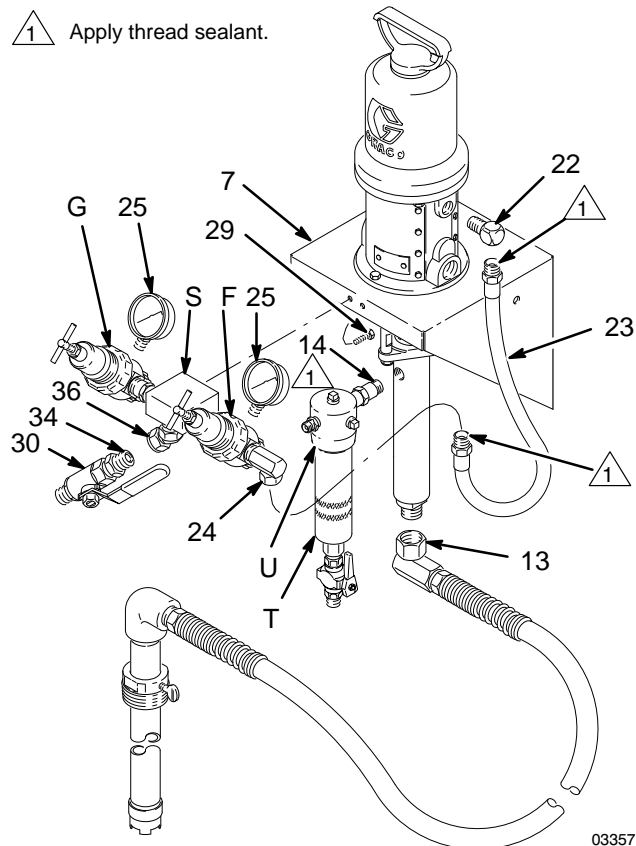

Fig. 2 Pail Mounted Pump 03357
1. Screw the gauges (25) into the air regulators (F, G). See Fig. 2.
2. Connect the nipple (34) and bleed valve (30) to the swivel (36).
3. Install the air manifold assembly (S) to the wall bracket (7) using the two screws (29).
4. Screw the elbow (22) into the pump air inlet, so the female threads face down. Apply sealant to both ends of the hose (23). Connect one end to the elbow (22), then connect the other end to the swivel (24) at the pump air regulator (F).
5. Unscrew the filter bowl (T) from the top cap (U). Apply sealant to the threads of the nipple (14) and install the nipple and top cap in the pump outlet. Lubricate the threads of the filter bowl (T) and screw it into the top cap (U) tightly.
7. Screw the suction kit swivel (13) onto the pump intake.